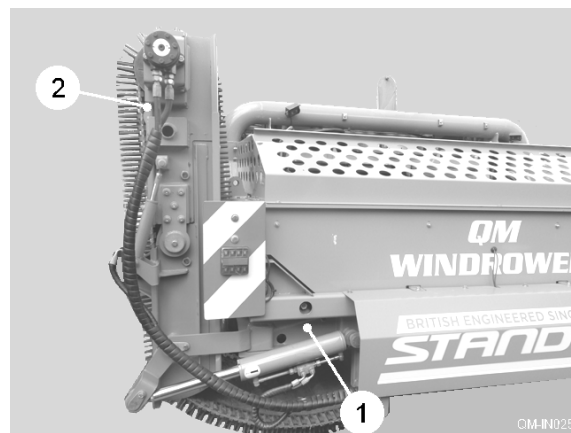

Fig. 18
The windrow conveyor (item 1, fig. 18) is fitted in place of the discharge elevator. The conveyor is designed to fold within the width of the machine for transport and to open out to discharge onto either the adjacent un-harvested bed or one bed further over.
When fully lowered the conveyor can be moved to the left or right up to 1200mm using the CONVEYOR SIDESHIFT switch. The discharge direction is selected by the CROSS CONVEYOR DRIVE switch and speed is controlled by the dial. Adjust the speed according to the volume of crop being handled. To reduce the drop height of the crop, the conveyor end sections (item 2, fig. 18) can be lowered using the switches marked CROSS CONVEYOR END ANGLE.
Before folding the conveyor for transport, raise the end sections (item 2, fig. 18) to horizontal and then side-shift the conveyor until approximately in the centre. Press and hold the CONVEYOR CENTRE button to fully centralise the conveyor. Once centred, raise the conveyors by pressing and holding the CONVEYOR CENTRE button and operating the TRANSPORT FOLD switch.